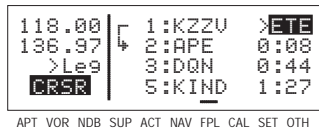
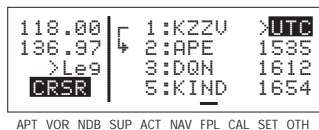
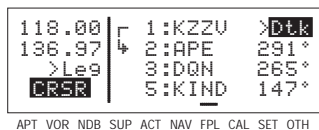

Figure 4-46
Figure 4-47
Figure 4-48
2. Press **CLR**. Subsequent presses of the **CLR** button will cycle through **ETE** in hours:minutes (figure 4-46), ETA in terms of the system time zone (figure 4-47), magnetic **Dtk** (figure 4-48), then back to **Dis**.